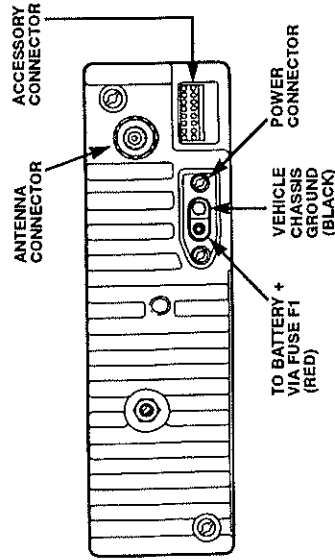

Figure 3. Connections to Radio Rear Panel
7. Connect the power cable black lead directly to the VEHICLE CHASSIS GROUND. (See Figure 3).
8. Connect the power cable red lead from the fuse holder to the positive (+) battery terminal. Make sure the adapter cable is connected to the main power cable red lead. (See Figure 3).
5. To complete your radio installation plug the power cable into the radio **POWER CONNECTOR** (see Figure 3).
7. Connect the antenna cable connector to the radio **ANTENNA CONNECTOR** on the rear of the radio. (See Figure 3).